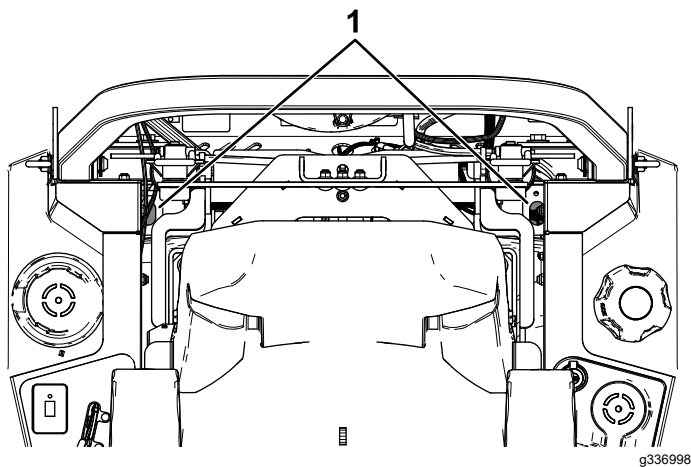

Figure 72
- **For ZT 4400 Hydros**, use an extension and 7/16-inch socket, access the vent plug from the top of the machine through the holes near the roll-bar mounts (Figure 72).